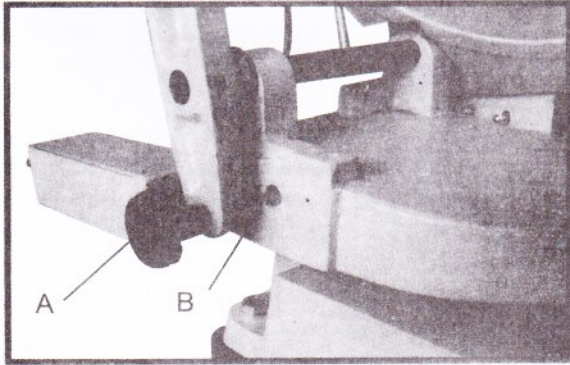

Fig. 16
An arm positioning knob (A) Fig. 16, is supplied on the rear of the base and can be set into one of the three holes (B) depending on the size of the work piece.